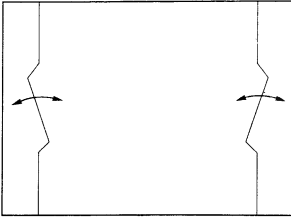

fig. 10
- Adjust the Trapezoid 2 to obtain condition as in Fig. 10.